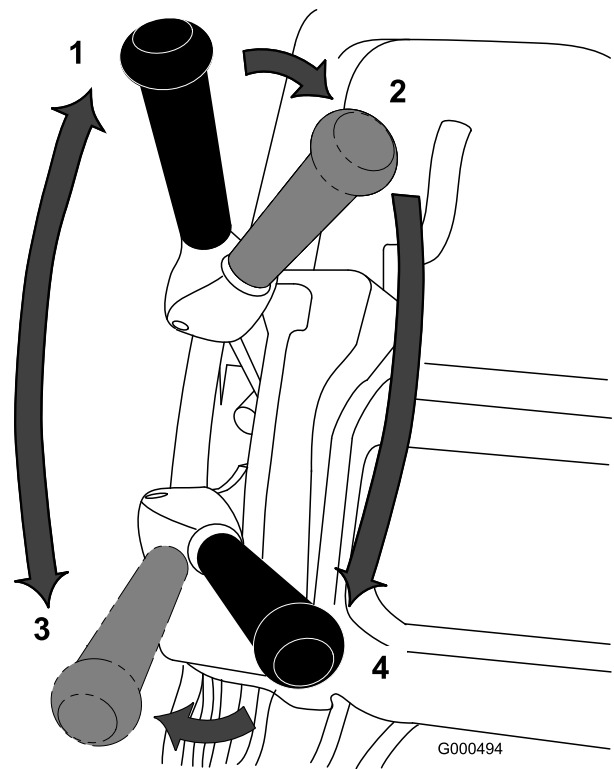

Figure 18
1. Start the engine, set the throttle at reduced speed, push down on handle to raise cutting unit, move traction lever to Engaged position and transport mower onto collar of green (Figure 18).
2. Move traction lever to Disengaged position and Engage reel drive lever (Figure 18).
3. Move traction lever to Engaged position, increase throttle speed until the mower is traveling at the desired ground speed, drive the mower out onto the green area, lower the front of the mower down and commence operation (Figure 18).